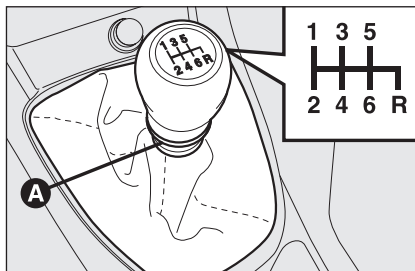
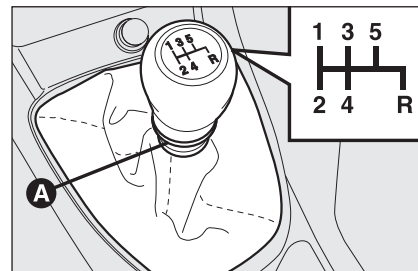
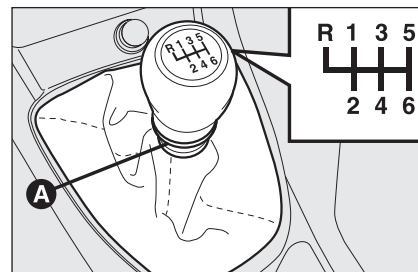

fig. 2
fig. 3
fig. 4
To engage the gears, press the clutch pedal fully and shift the gear lever into the required position (the diagram of gear position is shown on the knob **fig. 2**, **fig. 3** and **fig. 4**).
To engage reverse **R** from neutral, lift ring **A**-**fig. 2**, **A**-**fig. 3** or **A**-**fig. 4** and, at the same time:
- shift the lever to the right and back (versions 1.416V, 1.6 Multijet, 1.9 Multijet 16V) (**fig. 2**) and 1.9 Multijet 8V (**fig. 3**);
- shift the lever to the left and forward (versions 1.4 T-JET, 1.4 Turbo Multi Air, 2.0 Multijet) (**fig. 4**).